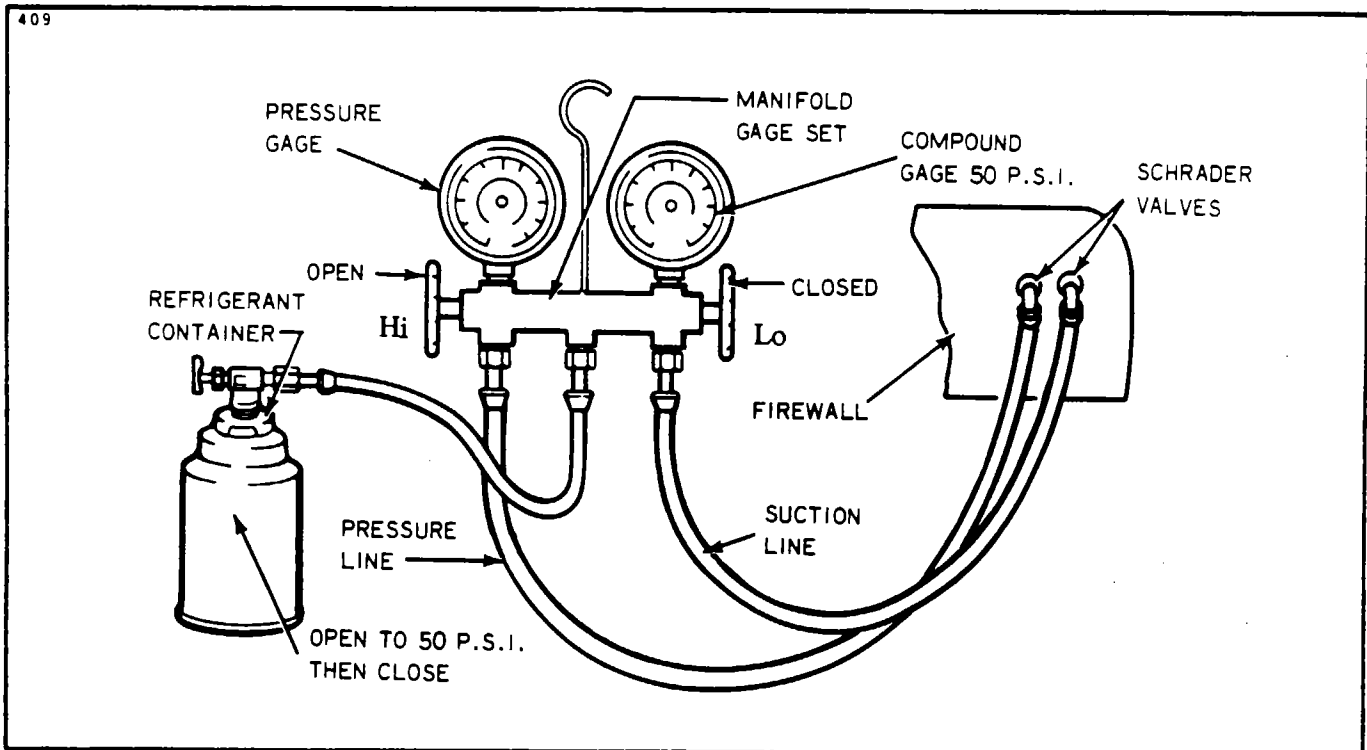

Figure 14-35. Leak Test Hookup
- a. The most accurate way to check the condition of the system is by attaching gauges to the system as shown in Figure 14-35.
- c. Close the low side manifold valve and open the high side manifold valve. (Refer to Figure 14-35.)